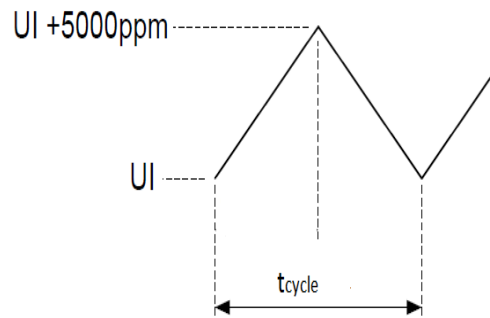

Figure 19 Measuring Modulation Rate
- c Measure the modulation rate, modulation rate is  $1/t_{cycle}$ .  $t_{cycle}$  is defined as shown in Figure 19.